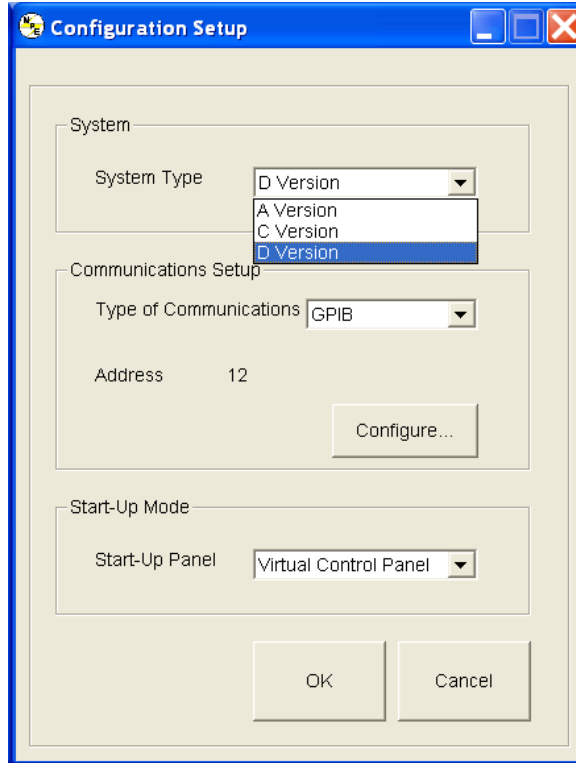

Figure 5.1 Configuration setup
2. Communications interface: RS232, RS485, GPIB (IEEE-488), TCP/IP (Ethernet), Simulated, or others depending on future developments. Figure 5.1 displays the Applications Setup Window. Address requirements are: